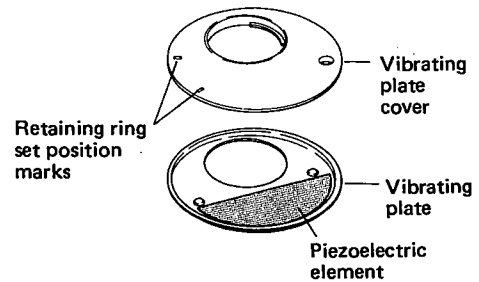

Fig. 4
② How to incorporate vibrating plate
- b. The vibrating plate and the vibrating plate cover are assembled together and then incorporated into the center body. The vibrating plate is set with the piezoelectric element side up, and the vibrating plate cover is set with the retaining ring set position mark turned up respectively. (Fig. 4)